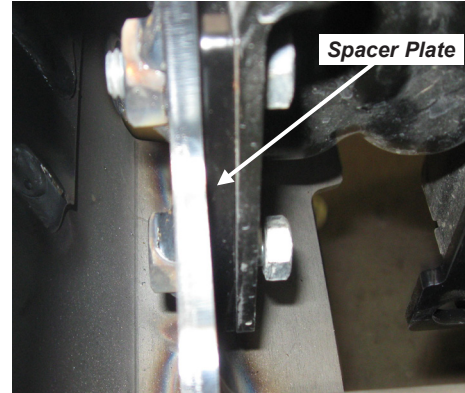

Figure 14
12. Place the four spacer plates between the bumper mount plate and the bumper. See Figure 14.